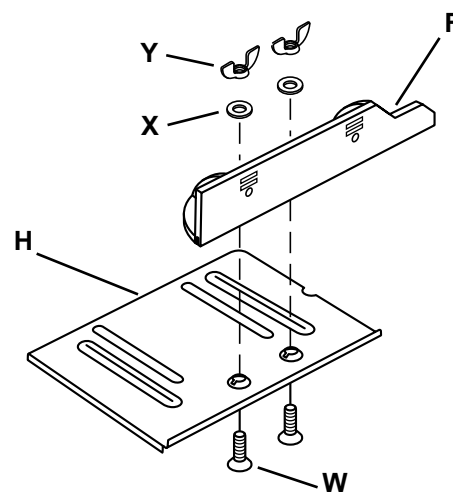

Figure 5
- Attach left fence (**F**) to left fence base (**H**) using 2 flat countersink bolts, (**W**), 2 washers (**X**), and 2 wing nuts (**Y**). Repeat for right fence (**G**) and right fence base (**J**). See Figure 5.